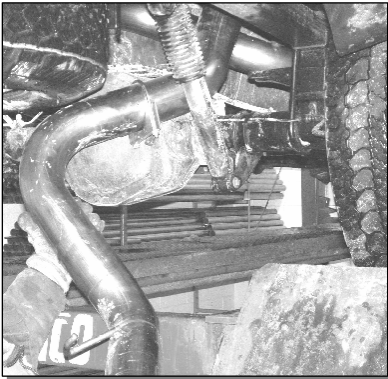

Figure 13
10. Install the **Passenger Side Tail Pipe** from the rear of the truck, over the axle and attach to the lower outlet of the **Muffler**. Install the tail pipe hanger into the OEM hanger to complete the driver’s side. **See Figure 13.**